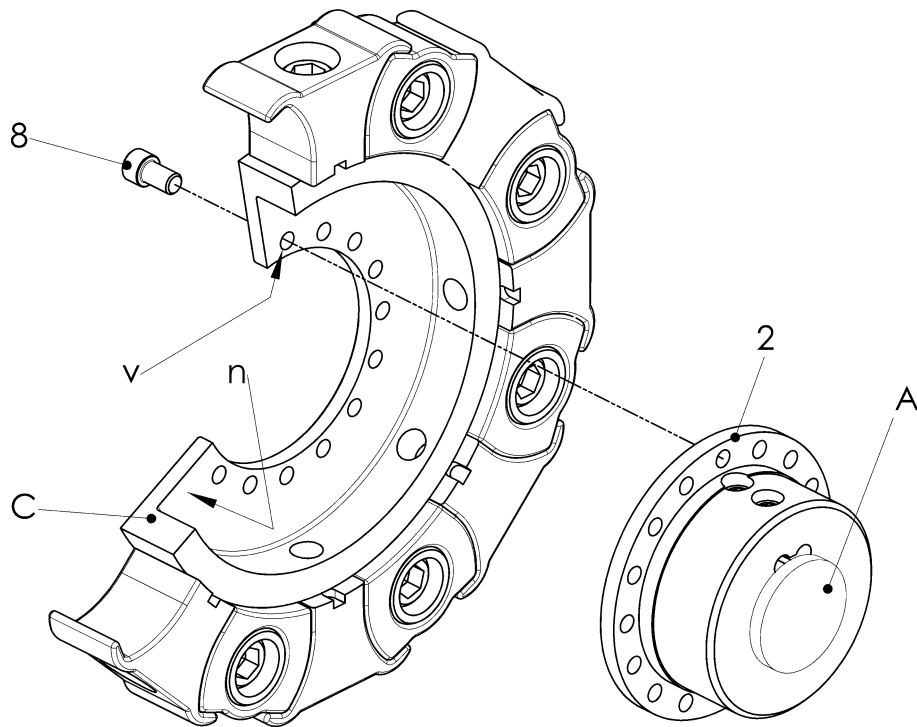
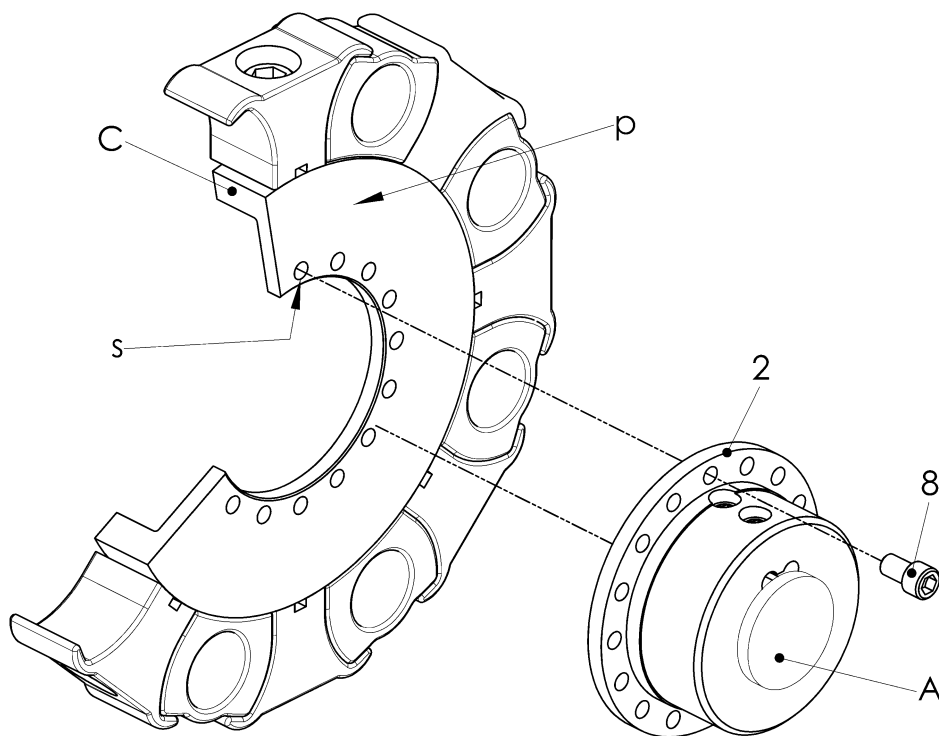

Fig. 5-7 Mounting the pre-mounted assembly (C) with drillings (v) to the hub (2)
Fig. 5-8 Mounting the hub (2) to the pre-mounted assembly (C) with threads (s)
- Mount the pre-mounted assembly (C) with drillings/threads (s/v; see installation drawing):
- Pre-mounted assembly (C) **with drillings (v)**, see Fig. 5-7:
- Push the pre-mounted assembly (C) onto the centring of the hub (2). The contact surface inside (n; see installation drawing) must point towards the hub (2).
- Screw the pre-mounted assembly (C) to the hub (2) using the screws (8). Screw preparation and tightening torque for the screws (8) see data sheet D013-016, chapter 9.1 .
- Pre-mounted assembly (C) **with threads (s)**, see Fig. 5-8:
- Push the pre-mounted assembly (C) onto the centring of the hub (2). The contact surface outside (p; see installation drawing) must point towards the hub (2).
- Screw the hub (2) to the pre-mounted assembly (C) using the screws (8). Screw preparation and tightening torque for the screws (8) see data sheet D013-016, chapter 9.1 .